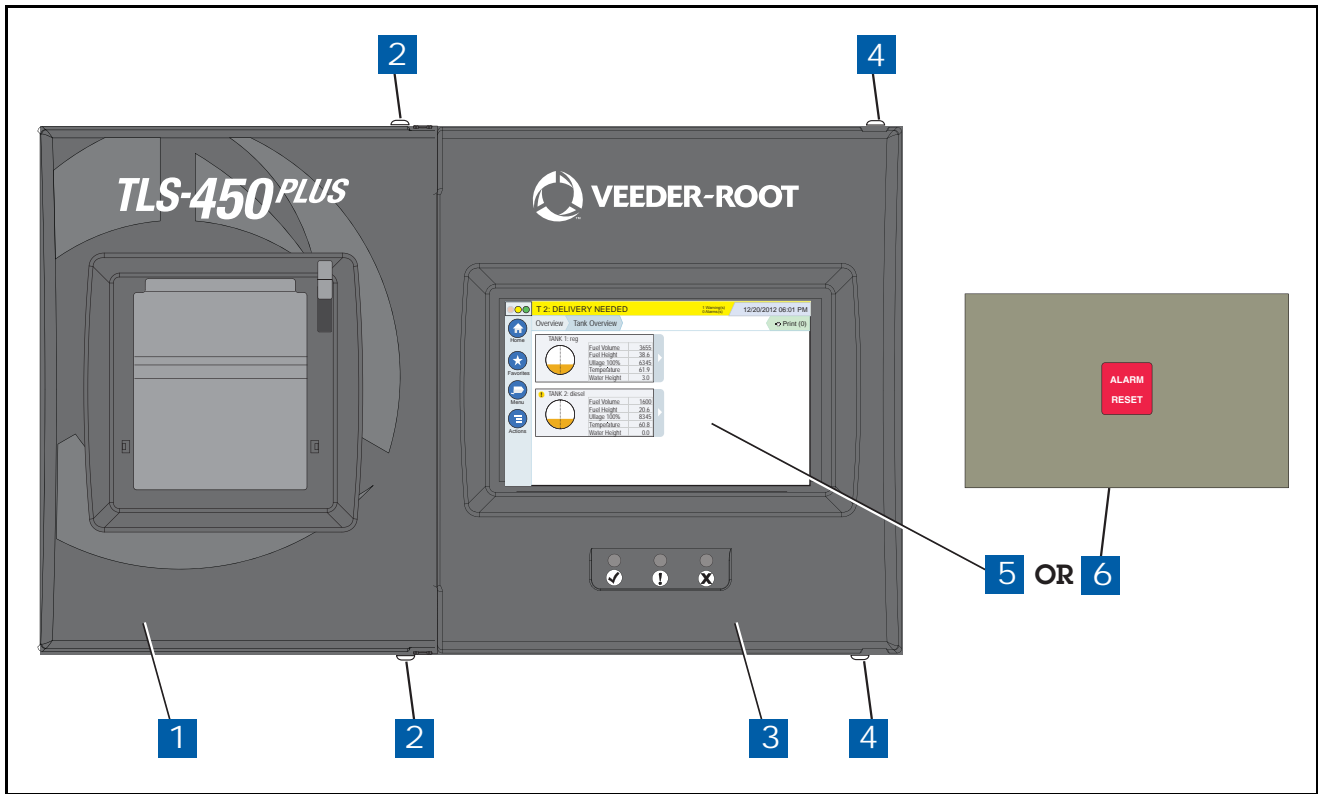

Figure 39. Front Doors
1. Open both front doors of the console (see Figure 39).
Legend for numbered boxes in Figure 39